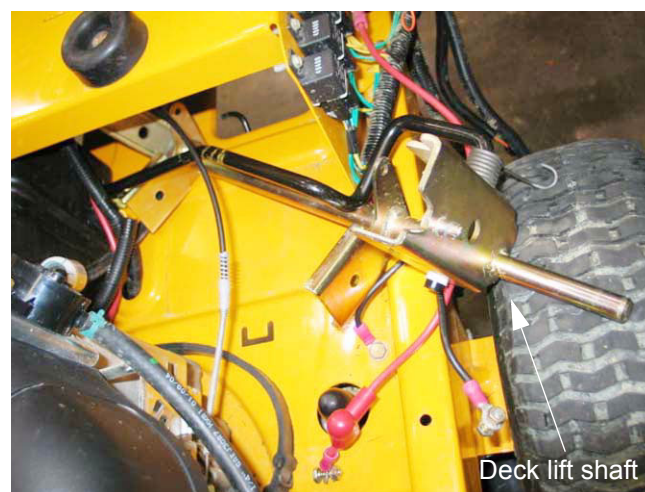

Figure 14.19
- 14.19. From this point the deck lift shaft and deck lift handle will slip off the rear of the unit where the battery was. See Figure 14.19.